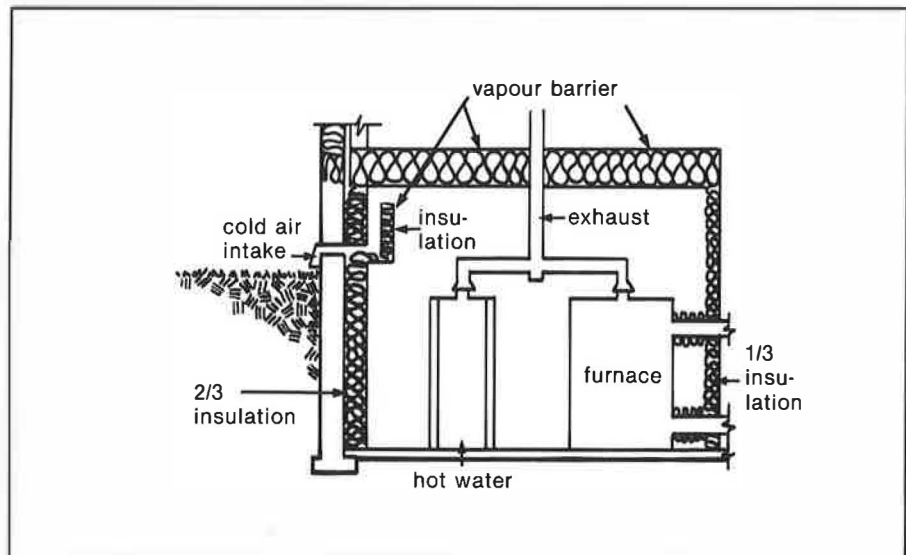

Fig. 19. Insulated furnace room.
- Separate furnace rooms can be sealed, insulated and provided with an exterior air supply (fig. 19).